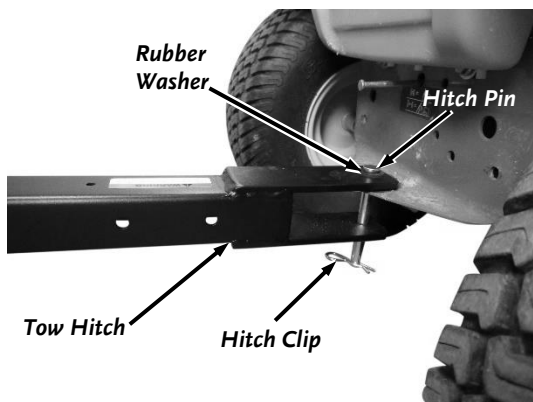

Figure 57
1. Position the back Hitch Plate of your Mower near the Hitch of the PILOT™ LEAF and LAWN VACUUM on level ground (**Figure 57**).